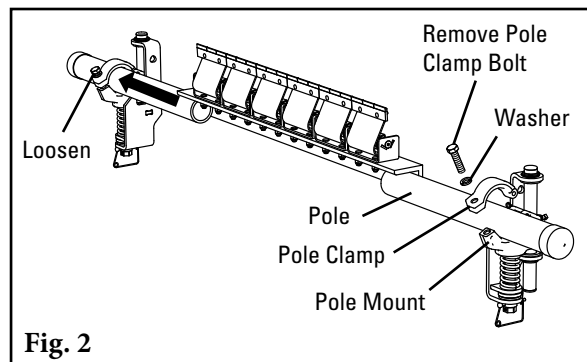

Fig. 2
Remove pole clamp bolt and lift or remove top half of pole clamp from the tensioner on the near side of the conveyor, and loosen pole clamp bolt on the opposite side. Slide the pole across the conveyor and through the loosened pole clamp, then place the near end of pole in remaining pole clamp (Fig. 2). Replace top half of pole clamp, reinstall the bolt and tighten both bolts finger tight.
2. **Install the pole.** Slide the pole into one torsion pole mount as far as needed and locate the other end into the opposite mount (Fig. 2). If there is not enough space, remove one of the mounting bases, slide the pole through the torsion pole mount, and remount the base.
2. **Disassemble upper mounting plate and air bag.** Remove and save bushing nut. Remove and discard upper mounting plate. Remove (unscrew) and save air bag, threaded insert and support plate (Fig. 2). **Optional:** Remove guide bushings. It will not affect the tensioner if these are left in place.